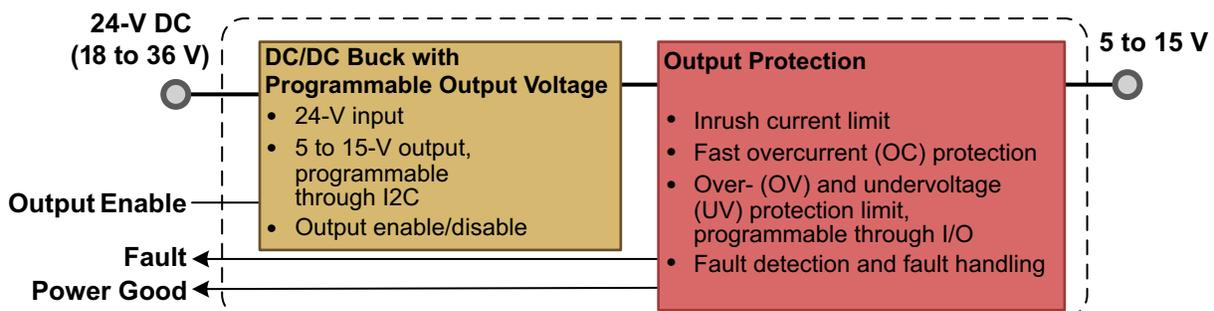

**Figure 1. Block Diagram of an Encoder Interface Module with a Servo Drive Featuring TIDA-00180 Power Supply Design**
This TI design implements a power supply with programmable output voltage, configurable inrush- and overcurrent (OC), over- (OV) and undervoltage (UV) protection, targeting for use in a position encoder interface module on a frequency inverter or servo drive, as shown in Figure 1.